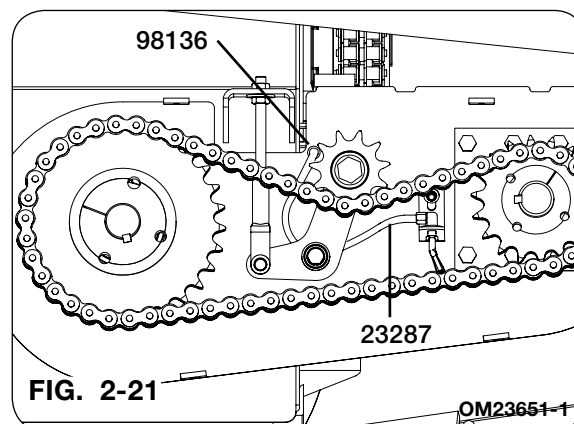

FIG. 2-21
4. Use the brush and bracket assembly as a template and mark at the center of the slot for mounting location (Fig. 2-21).
8. Attach the plastic tubing 32" long (23287) (Fig. 2-21).
9. Insert the grommet (98136) in the pre-drilled hole in the shield (Fig. 2-21).
10. Slide the plastic tubing 32" long (23287) through the grommet (98136) (Fig. 2-21). Lubrication maybe required to allow the plastic tubing to slide through the grommet. Do not over-tighten tubing to eliminate kinks.